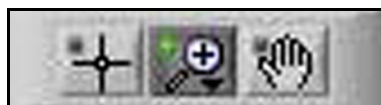

Figure 44: Graph Tools
- There is a series of Graph Tools available at the top left of the trend plot area (see *Figure 44* below).